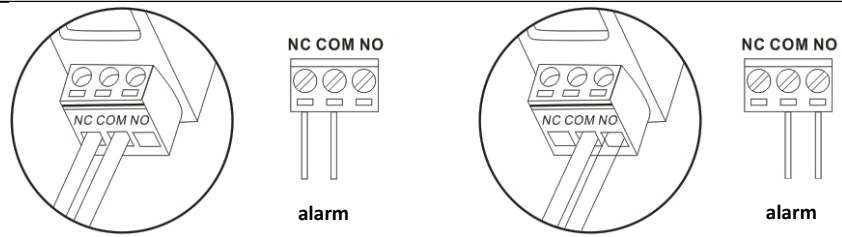

Figure 6-3 Remote alarm connection 1 is normally closed, fault open
2. If the remote alarm is required, select the open or short port based on the alarm system, as shown in Figure 6-3.